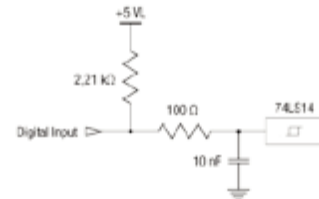
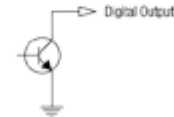

Figure 2: XPS Digital TTL Input
Figure 3: XPS Digital Output
positive logic. However, due to the stray voltage drop, the input and output voltages are not exact values of 5 or 0 volts, and manufacturers specify acceptable ranges for voltage and current values. The input and output specifications of the TTL digital signal for the Newport XPS series controllers are shown in Figure 2 and Figure 3 below.
The digital TTL input and output of the XPS controller are in negative logic, producing maximum 5 volts for “low” (0) state and minimum 0 volt for “high” (1) state. As shown in Figure 2, the digital TTL input is internally powered by 5 volts supply. Hence, when connecting an output of an external device to the digital TTL input of the XPS controller, no external pull-up resistor is required. The digital TTL output, however, is an open-collector type as shown in Figure 3, and it requires an external +5V power supply and a pull-up resistor. The GPIO1, GPIO3, GPIO4 and PCO connectors of the XPS controller provide outputs of +5V supply, that can be used to pull up the output signals.